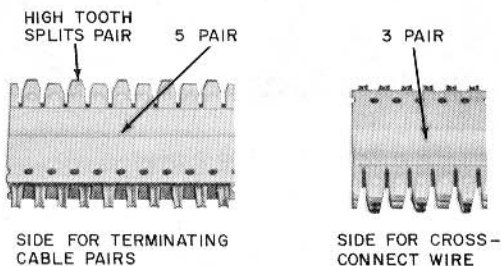

Fig. 3—88-Type Connecting Block
- 2.04 The 88-type connecting block (Fig. 3) consists of a flame retardant, plastic-molded housing equipped with double-ended, quick-clip metal connectors. When mounted on the wiring block, the bottom end makes connection with the cable conductors in the index strip, and the top end provides connections for cross-connect wires. They are available in 3- and 5-pair blocks. The clips for terminating the cables are designed to terminate